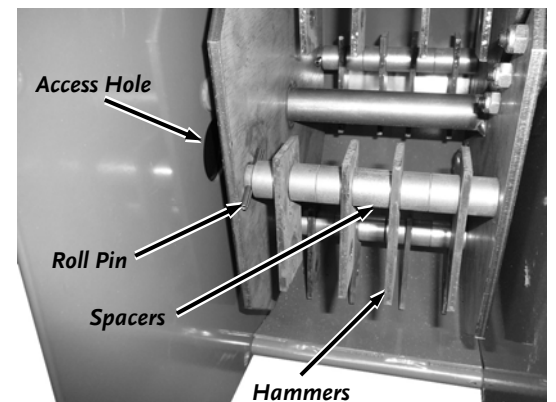

Figure 27
5. Rotate the Rotor Assembly to gain access to the Roll Pin at the end of the Rod (**Figure 27**).